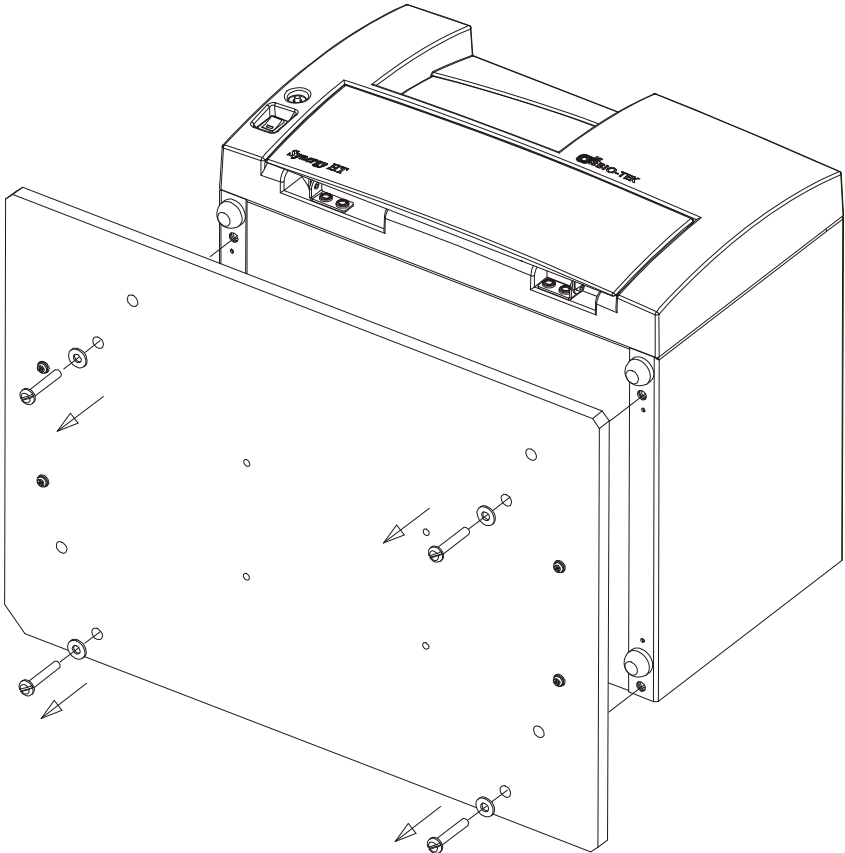

Figure 2: Removing the shipping panel
2. Using a slotted screwdriver, remove the four screws and washers attaching the shipping panel to the bottom of the reader. See **Figure 2** on the next page.